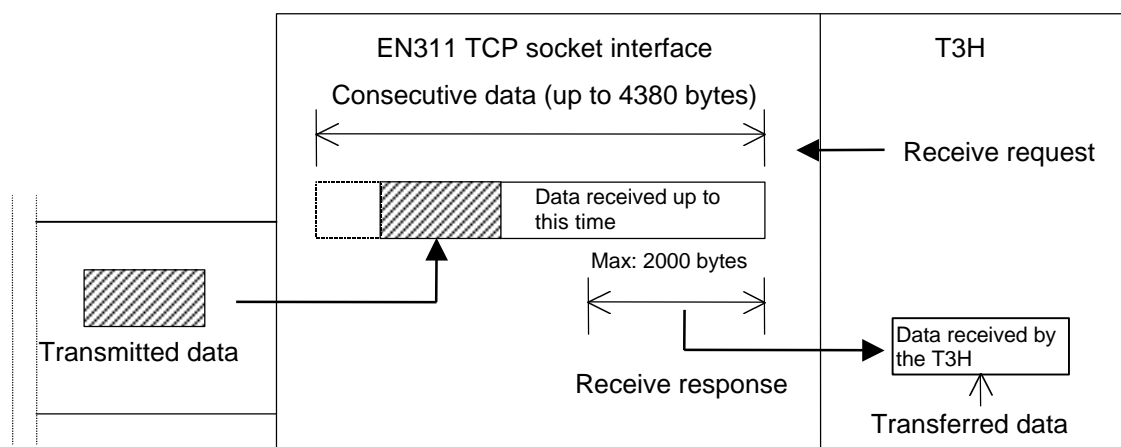

Figure 6.6 Handling of Transmitted Data in the TCP Socket Interface
- a. When using the TCP socket interface for data transmission, the data transmitted in a single operation is handled by the receive side EN311 as one section of a continuous data stream that comes from the sender. (See figure 6.6.)